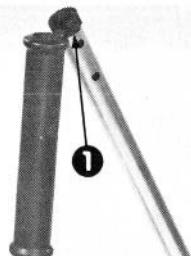

Figure 1.
2. Remove and discard the grommet from inside the upper handle (Fig. 1).